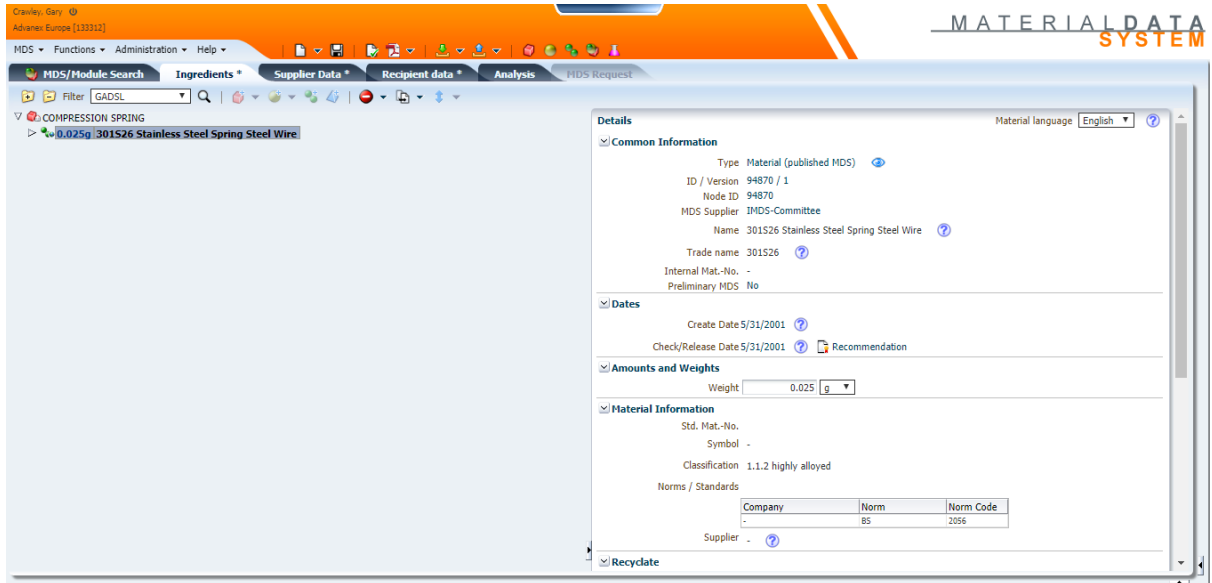

Fig.6
10. On the right-hand side enter the weight of the part again. (Fig6)